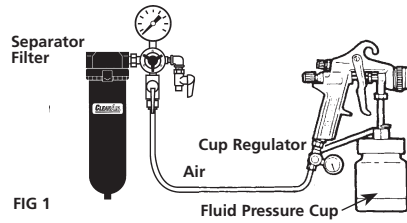

FIG 1
**PRESSURE CUP HOOKUP (Figure 1)**